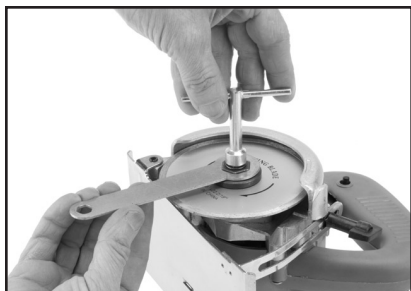

Figure 2. Attach the cutting blade.
1. Install appropriate blade (not included) using the box wrench and end wrench provided (**Figure 2**). The blade arbor retaining bolt has a reverse thread.